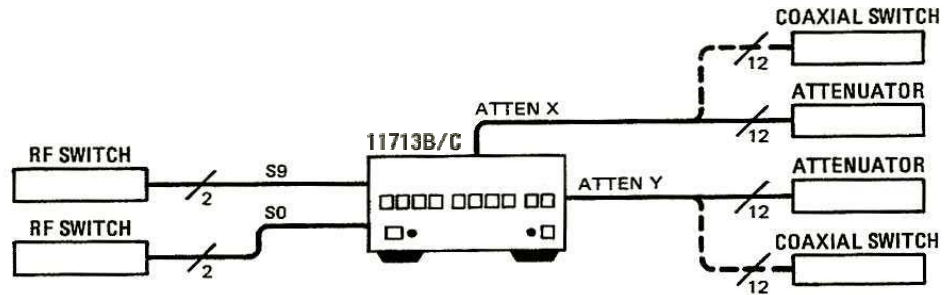

Figure 12 Switching System for Verification
- 1 Configure switching system illustrated in **Figure 12** by following all steps found in **Chapter 5**, “Local Operations.”